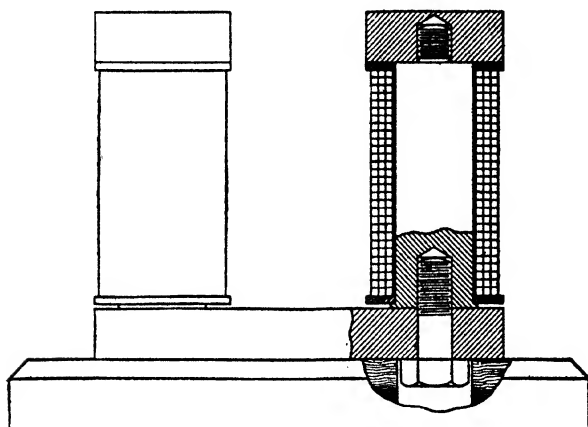

Fig. 140. Design for Magnet Recharger
*Magnet Recharger.* Electromagnets designed for this purpose and built specially for garage use are now on the market, or one may be made with little trouble. The following design, Fig. 140,